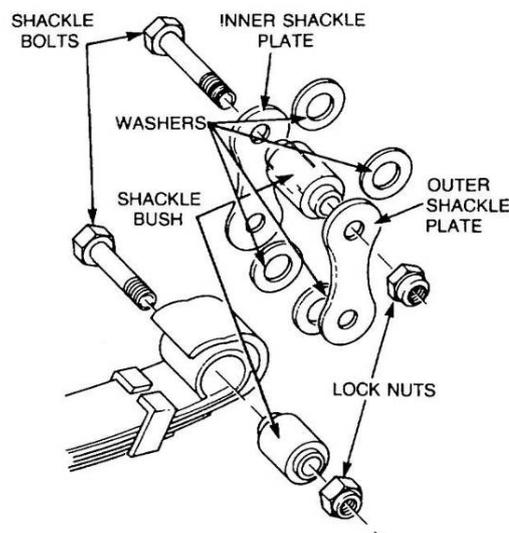

Figure 119 Removal of the Shackle Bolts (Rocker Beam End)
- c. Remove the outer shackle plate and the two flat washers. Using a suitable drift, drive the shackle bolts from the spring eye and the rocker beam. Remove the shackle bolts, the two flat washers and the inner shackle plate (Figure 119).